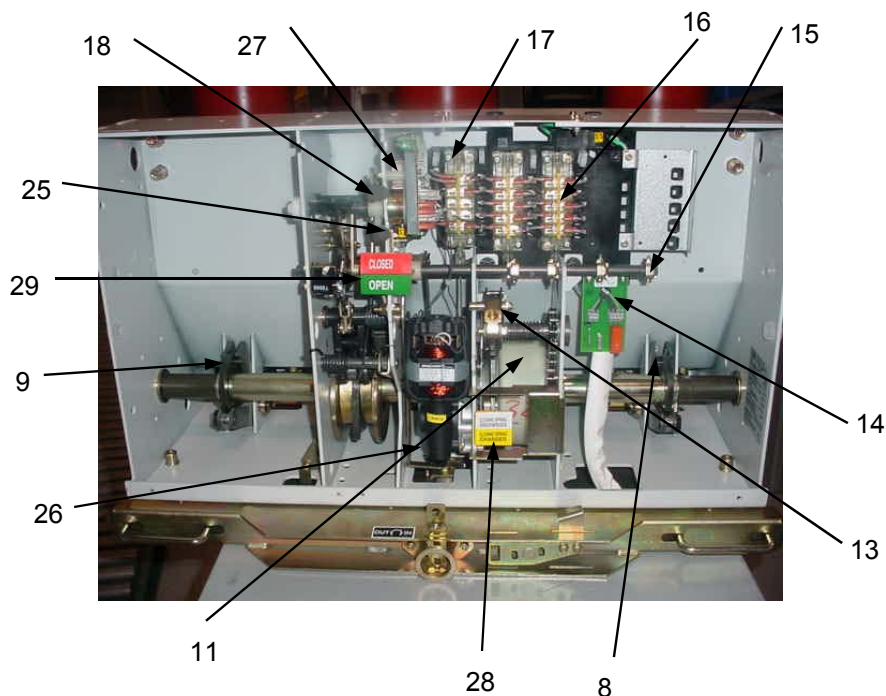

FIGURE 2: MECH AND CONTROLS
1. Inspect initial state of the breaker to determine the operations available (Refer to Table 1 and Fig.2)
- a. Close/Open indicator (29)
- b. Closing Spring Charged/Discharged Indicator (28)